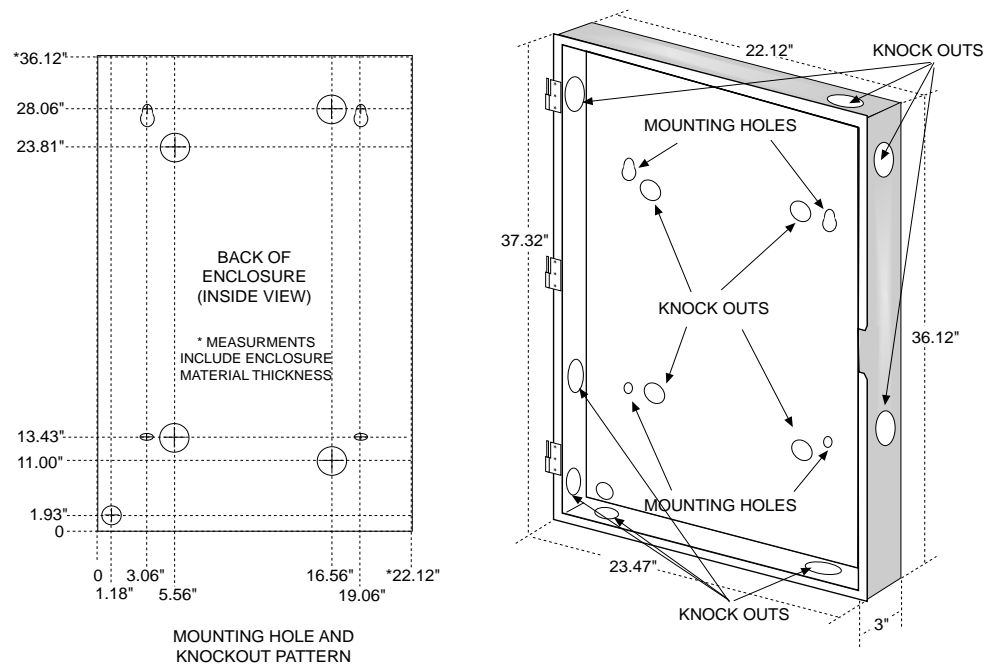

Figure 3: Enclosure Dimensions
If you are flush mounting the enclosure, cut and frame an opening 22 1/4" x 36 1/4" x 3" to accept the enclosure base box. See *Figure 3*.
2. Remove the necessary knockouts for external connections. See *Figure 3*.